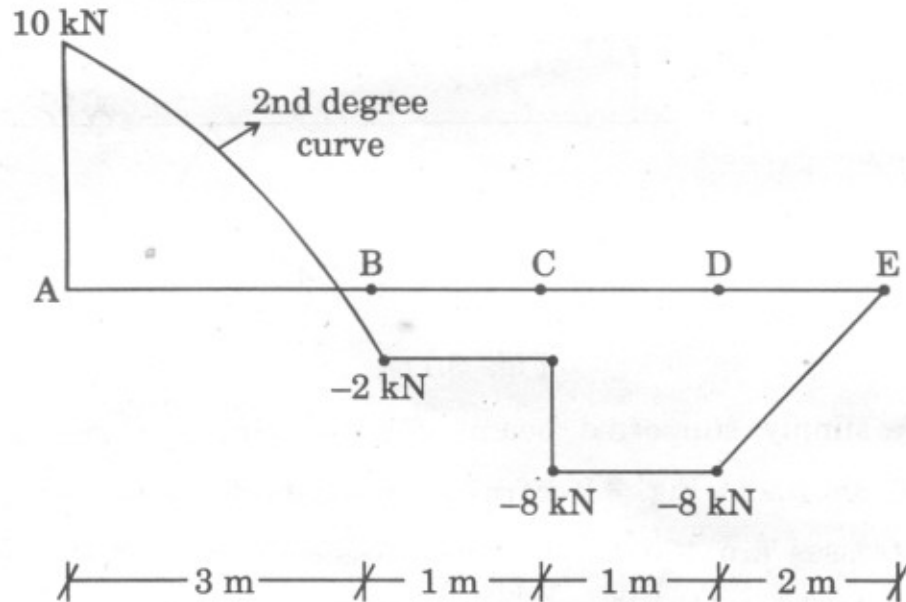

Fig. 4.1
4. (a) The Fig. 4.1 shows a shear force diagram of a beam. The curve in portion 'AB' is a second degree curve with zero slope at 'A'. Draw loading diagram and bending moment diagram of the beam. [10]